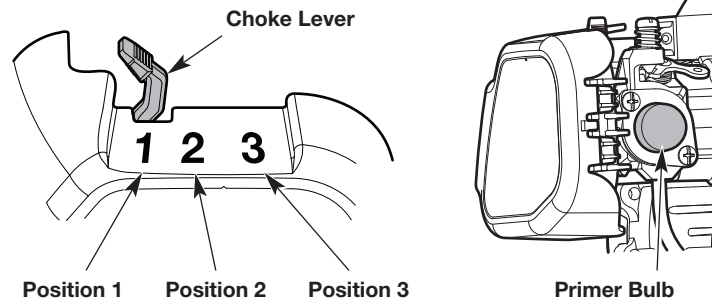

Fig. 10
1. Slowly press and release the primer bulb **10 times** (Fig. 10). If fuel cannot be seen in the primer bulb, press and release the primer bulb until fuel is visible.
2. Move the choke lever to **Position 1** (Fig. 10).
6. Move the choke lever to **Position 2** (Fig. 10).
9. Move the choke lever to **Position 3** (Fig. 10). Allow the engine to warm up for an additional 60 seconds. The unit may be used during this time.
IF... the engine hesitates, return the choke lever to **Position 2** (Fig. 10) and continue the warm-up.